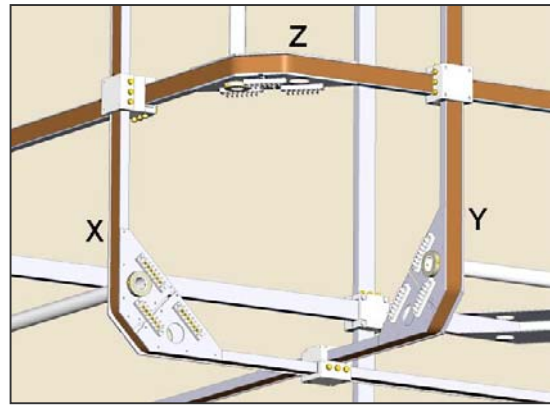

Fig. 4: Location of terminal blocks.
**Note 1:** The coil-forms in aluminium alloy are not closed square frames, but these have a purposely gap near the connecting terminal block of the coil. Electrical wires are soldered to both sides of the gap and are connected to the terminal block also, in order to use the coil-form as a one-turn coil when wanted. We call this exclusive technical concept "In-circuit coil-forms". So, the two forms on each axis make an extra Helmholtz pair of one turn per coil, what is usually named with the prefix "s". For instance: for the X-axis, the aluminium forms make the pair Xs. See Fig. 4 for an electrical schematic including the coil-forms.
**Note 2:** The bifilar winding provides two identical windings on each coil, which can be used as two independent coils to get two identical Helmholtz pairs on each axis. For instance, for the X-axis we have the circuits X1 and X2 on each coil-form, which can be used to make the pairs X1 and X2. The Fig. 4 depicts the electrical diagram for the X-axis.
Every coil-set is delivered with these two pairs on each axis converted in only one by means of a couple of jumpers. In other words, the two identical circuits are in parallel wired (see Fig. 4). In this way the system can be operated at the larger currents and the lower possible voltages. Just cutting the jumpers can easily separate the two circuits on each axis, to use these in different configurations as needed.
All the terminal blocks, with M4 brass screws, can be grouped in one corner of the coil-set, as can be seen in Fig. 4.